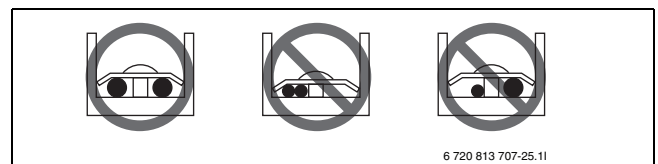

Fig. 28
- ▶ Do as shown in (→Fig. 28), when connecting wiring which is the same thickness.